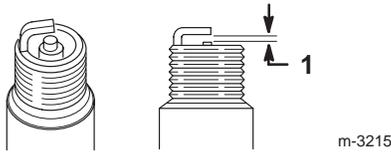

Figure 26
9. Set the gap between the electrodes on the spark plug at 0.030 in. (0.76 mm) as shown in Figure 26.